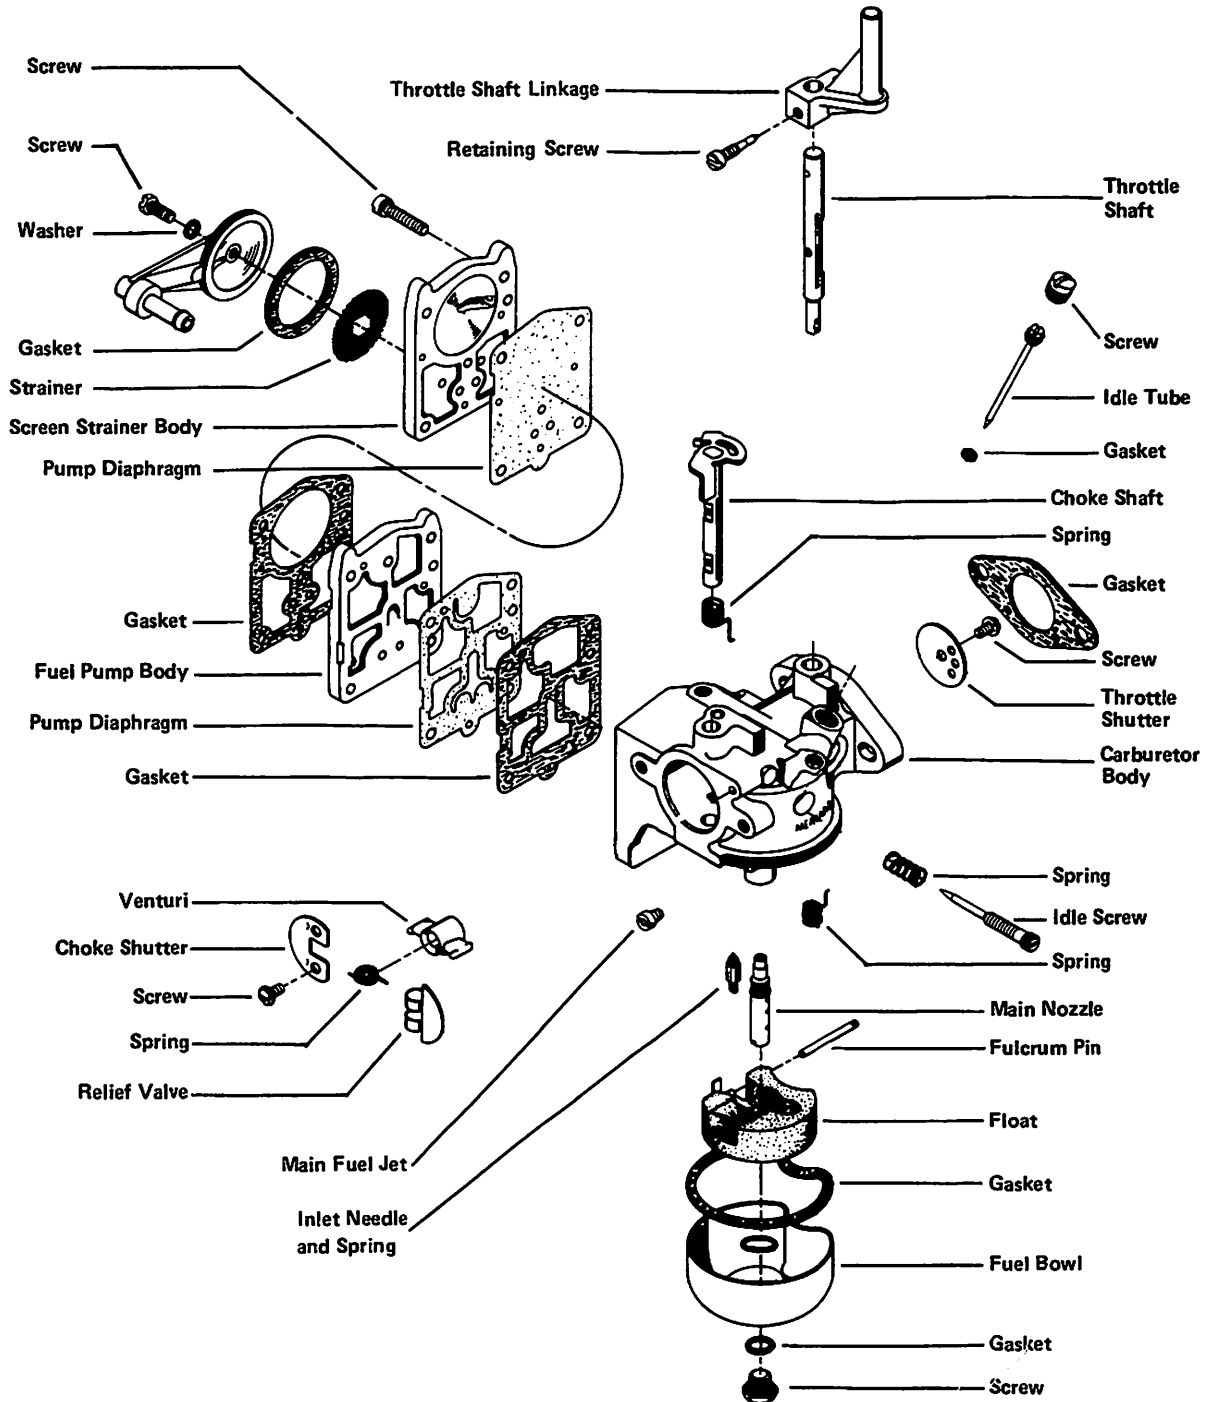

Figure 4. Carburetor - Integral Fuel Pump Type
2. Remove strainer body, pump diaphragm, gasket, pump body, diaphragm and gasket. (Figure 4)
Unscrew idle mixture screw and remove spring. (Figure 4)
1. Remove plug screw. (Figure 4)
1. Remove float bowl screw, gasket, float bowl and gasket. (Figure 4)
1. Remove screw and washer which secures throttle shutter to throttle shaft. (Figure 4)
2. Remove throttle shutter return spring from throttle shaft. (Figure 4)
1. Remove 2 cap screws and remove trash screen. (Figure 4)
3. Install new float bowl gasket. Secure float bowl with 2 fiber washers and screw. (Figure 4)
1. Install, gasket, diaphragm, pump body, gasket, pump diaphragm and strainer body on carburetor. Secure with 4 washers and screws. (Figure 4)